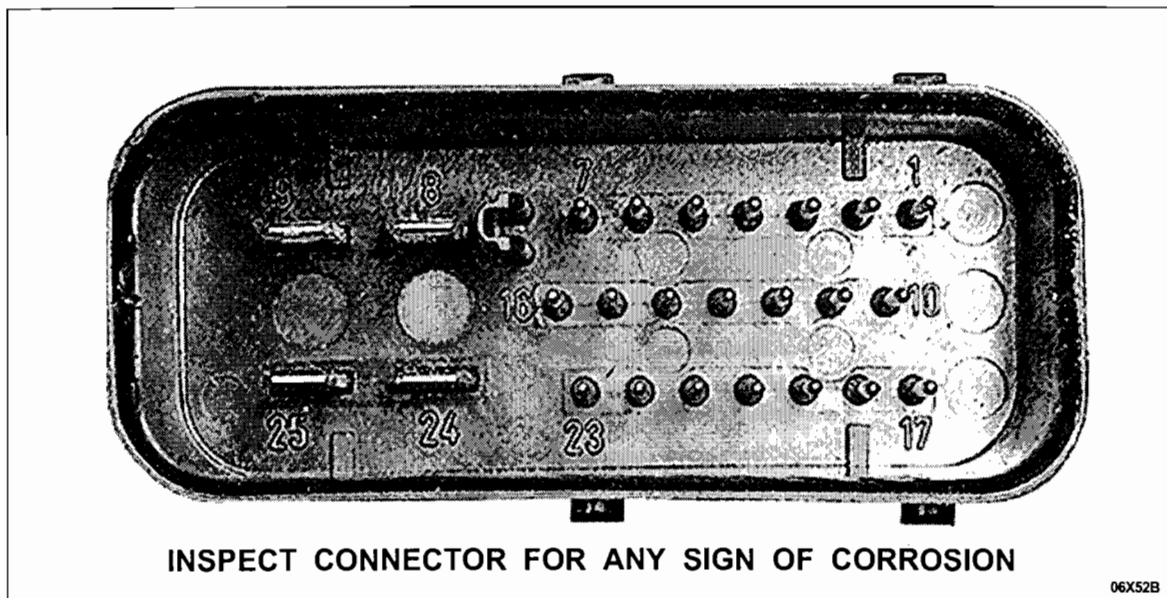

FIGURE 2
4. Inspect the ABS module connector pins for corrosion. See Figure 2.